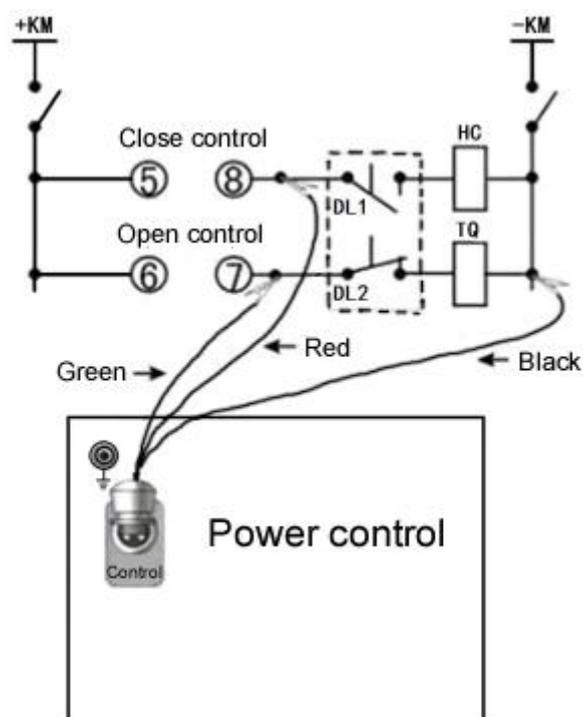

Figure 12. Control wiring diagram
① When the closing and opening control power supply is provided by the instrument, disconnect the control power supply in the breaker control box under test (usually pull out the insurance connecting the control power supply in the control box with the control bus), but the energy storage power supply of the breaker mechanism can not be cut off, and Then follow the wiring shown in Figure 12.
Solution: Find the control wiring diagram of the field control cabinet, ask the relevant protection professionals, and find out the auxiliary contact points of the closing and opening coils and breakers respectively. See the control wiring diagram in Figure 12 of this specification and explain the re-wiring. Check the control loop to ensure smooth circuit.